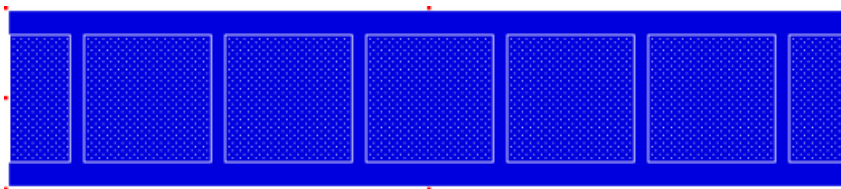

FIG. 115 Sub-Page View button - Sub-Pages indicated with placeholders
3. Once the Sub-Page Set has been assigned to the Sub-Page View button, the Sub-Pages that will be displayed on the touch panel page are represented with placeholders (FIG. 115):